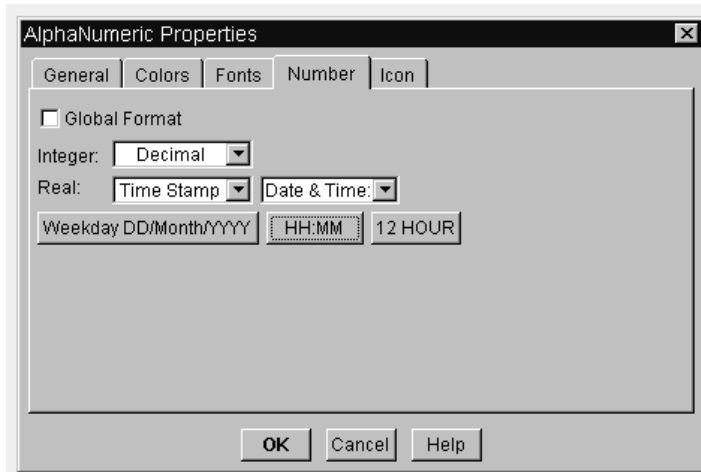

Figure 7.3. The AlphaNumeric Properties box: number
10. Go to the Time AlphaNumeric Object Properties Dialog box, remove the check mark to the left of Global Format, then set all values to match Figure 7.3; click OK.